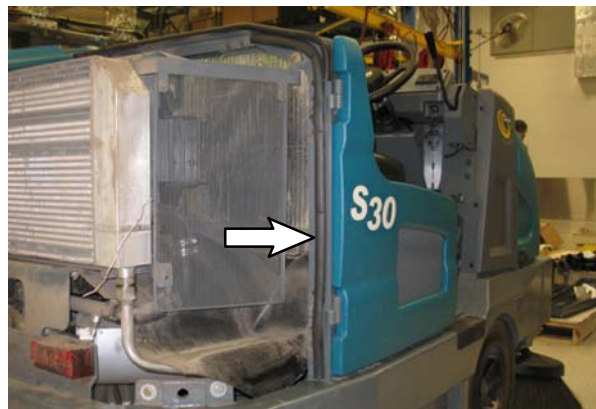

FIG. 65
80. Install 915 mm (36 in) seal (103) onto the right rear hinge bracket (104). (Fig. 65)